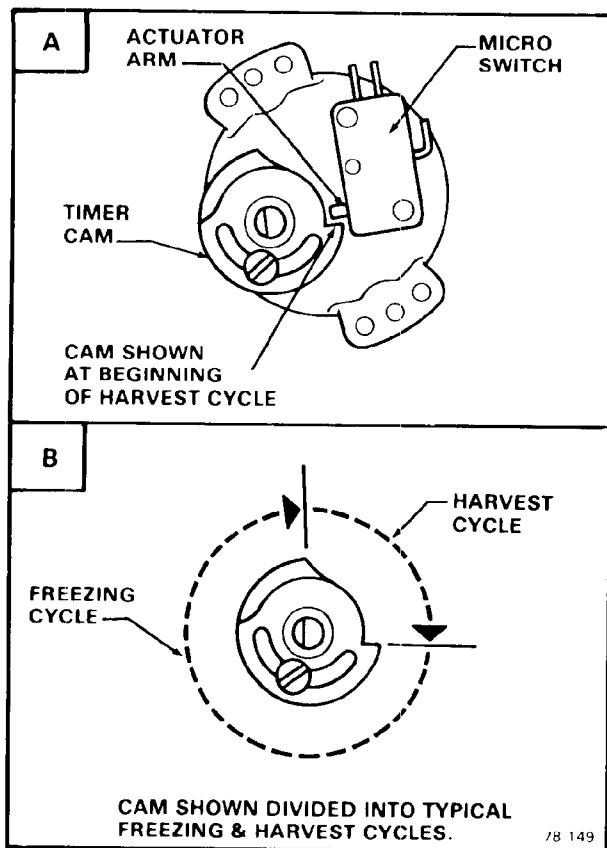

Figure 4-2. Adjustment of the Timer & Switch Assembly
- Slowly rotate the shaft of the Timer & Switch Assembly, located in the hole in the front of the Control Box Cover **CLOCKWISE**, until the actuator arm on the microswitch drops off of the outer cam into the cam slot. An audible click can be heard, but in a noisy area, look at the cam and switch to observe the event. See Figure 4-2.